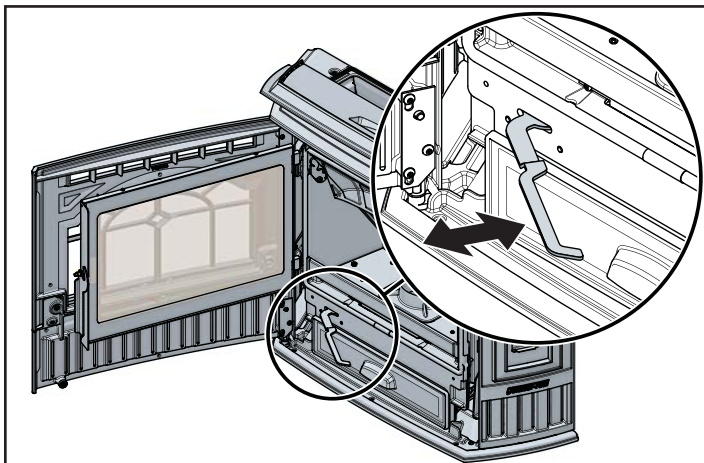

Figure 16.2
- c. Pull firepot floor cleaning lever two times until the ash falls into the ashpan below. **Figure 16.2**